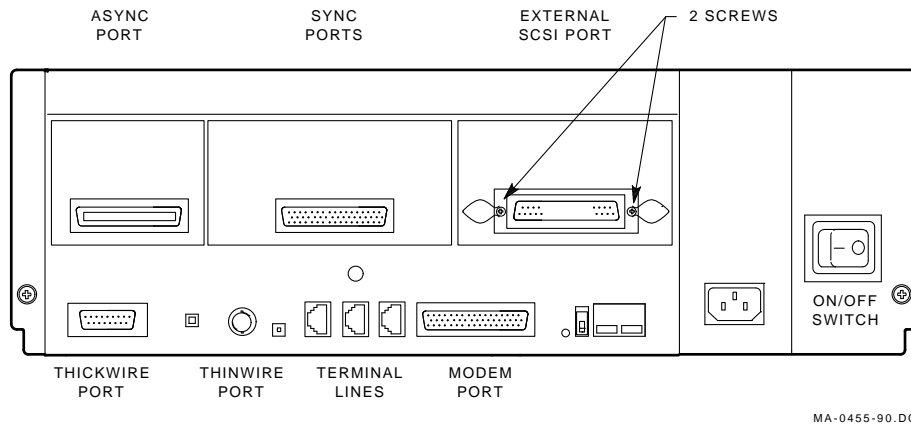

Figure 2-4 SCSI Port Connector Removal
1. Remove the SCSI "B" external port connector from the rear panel by removing the two mounting screws on the rear of the system unit (Figure 2-4).